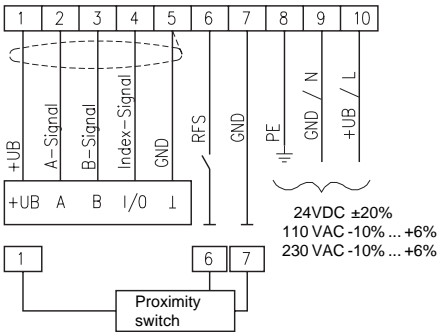

Fig. 2: Connection diagram (type EG)
- PE connection with 2.5 – 4 mm2 via PE terminal (fig. 2).